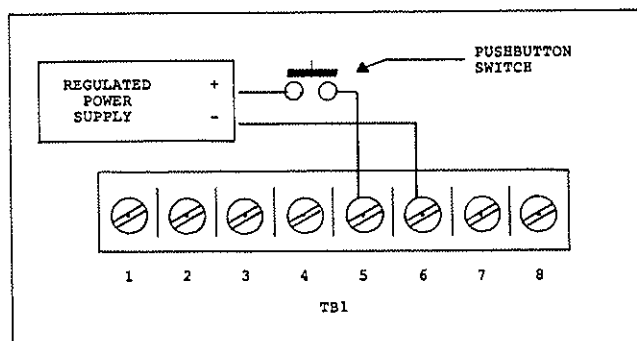

Figure 3-12. Connecting an external power supply and trip switch to the transmitting terminal in a unidirectional system
4. Connect the regulated power supply and the pushbutton switch to the transmitting terminal, as shown in Figure 3-12.